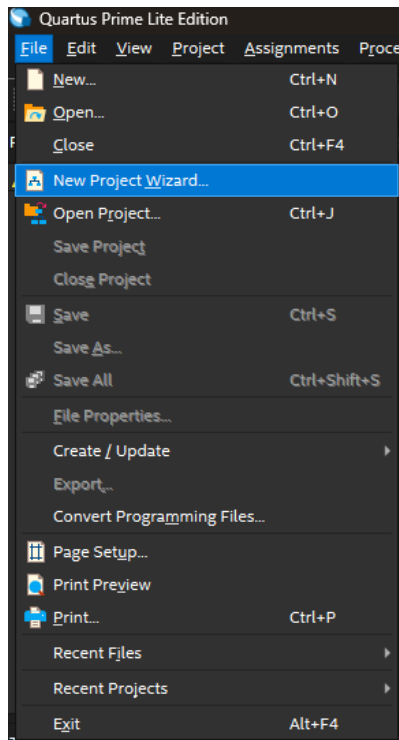

Figure 1. New Project Wizard.
2. Go to the top menu and select: **File → New Project Wizard**, as shown in Figure 1.